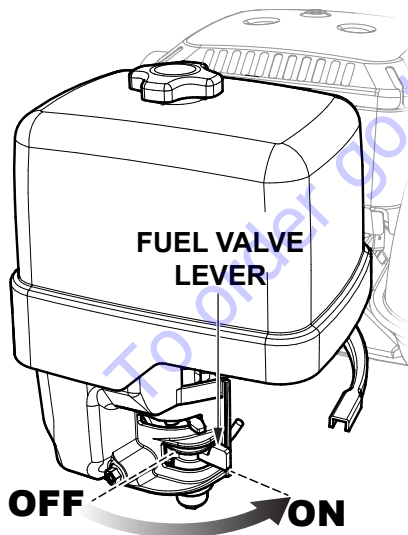

Figure 33. Engine Fuel Valve Lever (Open)
1. Place the engine fuel valve lever in the **OPEN** position (Figure 33).